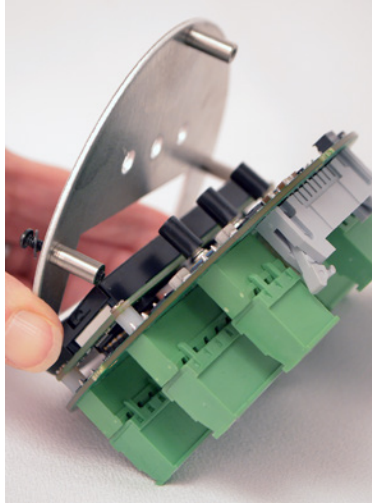

Figure 5.10—Attachment of faceplate to new top circuit assembly
9. Align the faceplate removed in Step 7 with the new top circuit assembly so that the cutout frames the LCD display and the three round holes fit over the black buttons as shown in Figure 5.10, Page 51. The integral standoffs on the faceplate should align with holes at the top and bottom of the top circuit assembly.